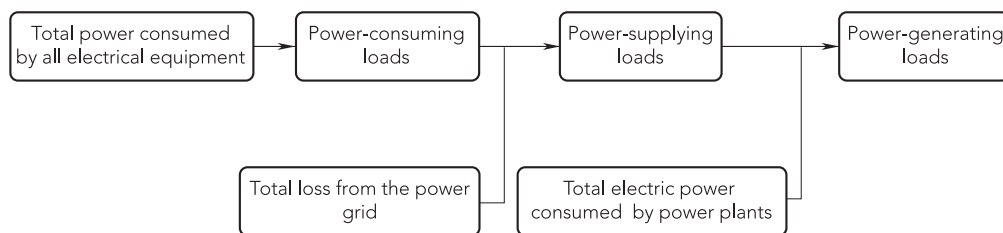

Figure 1.5 Relationship Among Three Types of Loads
- (1) Based on your life experience and relevant materials, share your knowledge of railway electrical equipment and their main functions, and note down the key points.
- (2) What are the differences between the requirements for CLASS 1 electrical loads and CLASS 2 electrical loads in a railway power distribution system?
- (3) Discuss the relationship among power-consuming loads, power-supplying loads, and power-generating loads, based on Figure 1.5.